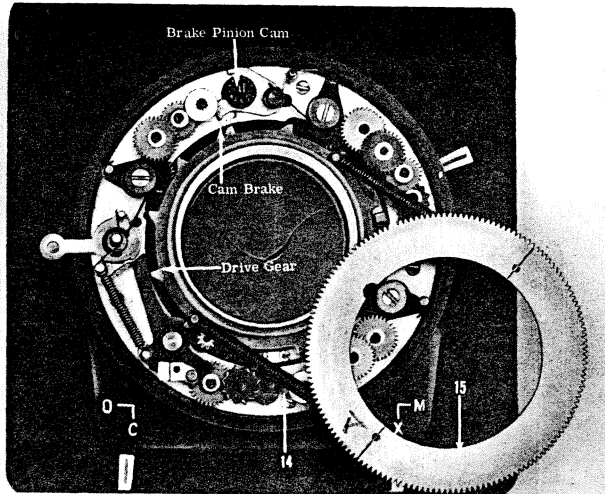

Figure 14.
a. To facilitate alignment of winding gear (15, Figure 14), scribe a line through centerline of two posts on winding gear as shown. To each post attach a drive spring (14), attaching the opposite end of each spring to a post on drive gear. Apply a thin